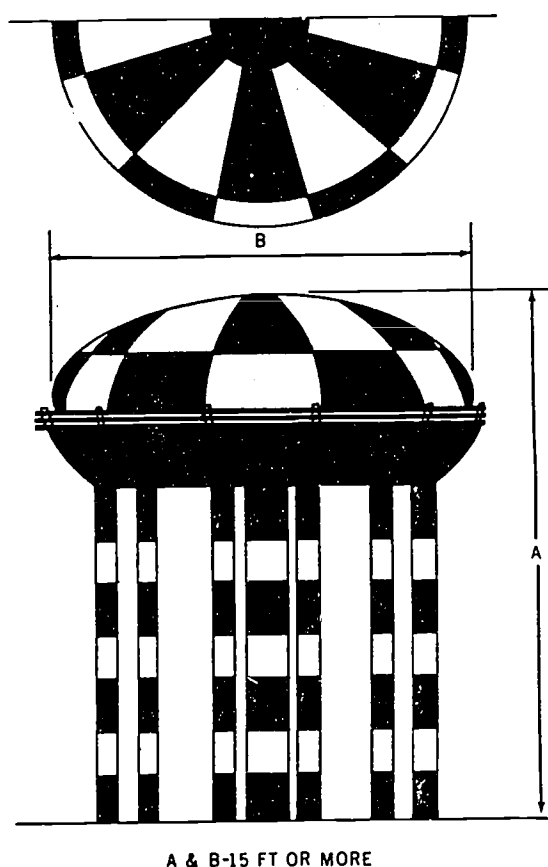

Figure 59. Marking spherical shaped obstructions.
d. Marking Spherical Shaped Obstructions. If a part, or all of certain objects of spherical shape does not permit the exact application of the checkerboard pattern of coloring, then the shape of the alternate rectangles of orange and white covering the spherical shape may be modified to fit the particular shape of the structural surface, provided the dimensions of the modified rectangles remain within the dimensional limits. Figure 59 illustrates the application of this requirement.